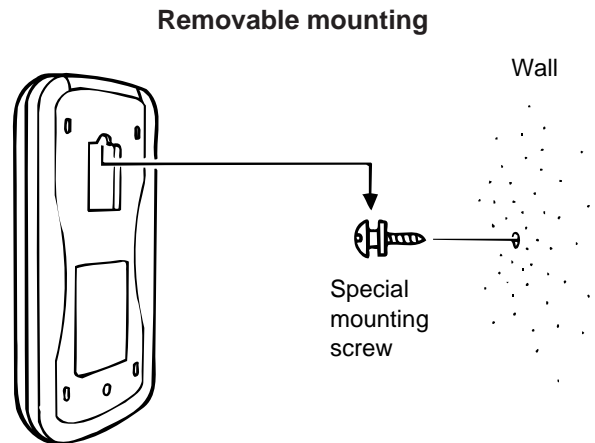

Fig.7a
- 3) After confirming correct operation, use a screwdriver to screw the supplied special mounting screw into the wall. (Fig.7a)